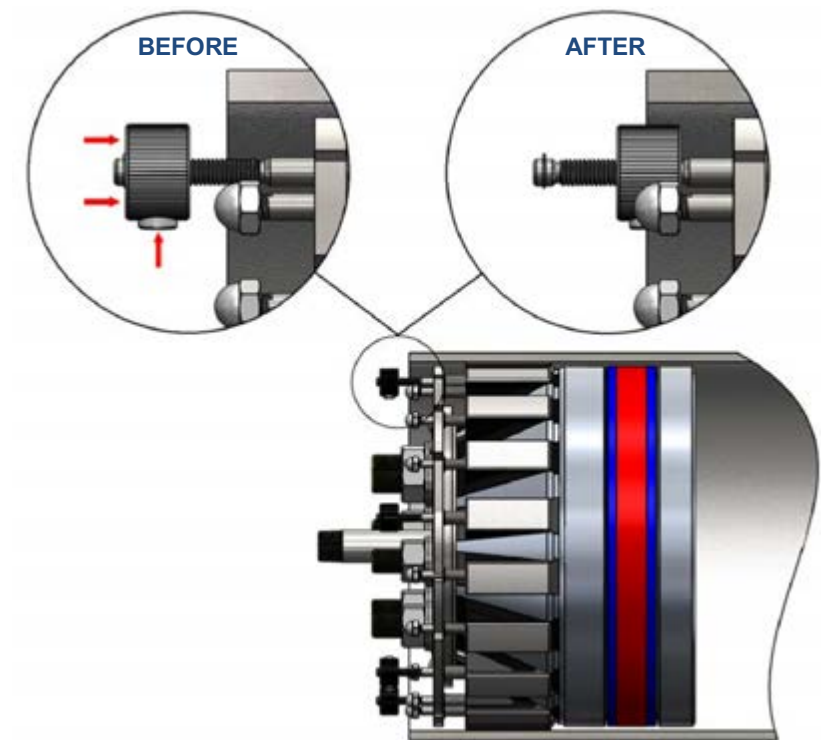

Figure 18: Repositioning Speed Nut
- 10.3 Before loosening the **Compression Hex Nuts (19)**, ensure that all **Speed Nuts (1)** are fully positioned at the end of the stud's thread, as shown in Figure 18 – AFTER.
- 10.4 Turn the **Speed Nut (1)** clockwise until it reaches the end of the thread, away from the retainer ring. For quicker repositioning, press the button on the **Speed Nut (1)** and slide it toward the end of the thread, away from the retainer ring, as shown in Figure 18 – BEFORE. Once it is at the end of the thread, ensure the threads are interlocked by turning the **Speed Nut (1)** clockwise until it is finger-tight.
- All **Speed Nut(1)** must be in the “AFTER” position shown in Figure 18 before loosening the **Compression Hex Nuts(19)**.
10.6 Loosen the **Compression Hex Nuts (19)** in an even star pattern to avoid placing the entire load on a single bolt.